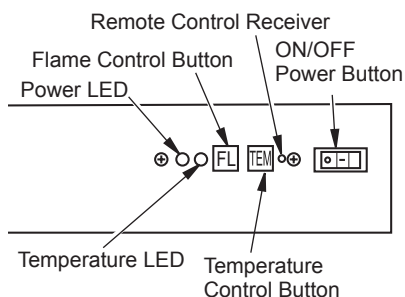

Figure 5 - Controls For Electric Fireplace
The controls (see Figure 5) are located behind the bottom panel. Pull gently on bottom panel to open.
2. **Main ON/OFF Power Switch and LED:** This switch is located on the right side of the control panel. The power LED will light up when the unit is on (see Figure 5). When unit is on, the default settings for the fireplace is low background lighting and high ember bed and flame and the heater is off.
3. **Temperature Control Button and LED:** This button is located to the left of the Remote Control Receiver (see Figure 5). The LED is located to the left of the Flame Button. Push button to cycle through settings. When this button is pushed the LED will change to its corresponding color: Green for LO, Orange for MED and Red for HI. When heater is on heat will emit through vents located in the middle of the top louver panel (see Figure 4).
4. **Flame Control Button:** This button is located to the left of the Temperature Button (see Figure 5). After power is on, push the Flame Control Button to adjust flame and ember bed brightness. Press and release the Flame Control Button to cycle through LO, MED, HI and OFF.